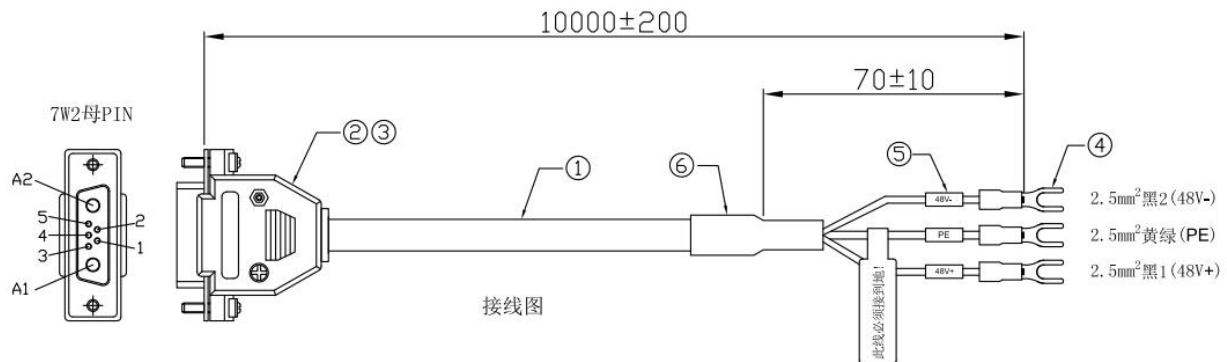

Figure 5 Diagram of the Power Supply Cable
- 2) Connect the laser to the 48V DC power supply, and make sure that the DC power supply can provide sufficient output power. Please connect and lock the connector in the way shown in Figure 5. The black power cable "48V +" is 48V DC positive, "48V-" is 48V DC negative. The yellow cable "PE" is the ground wire.